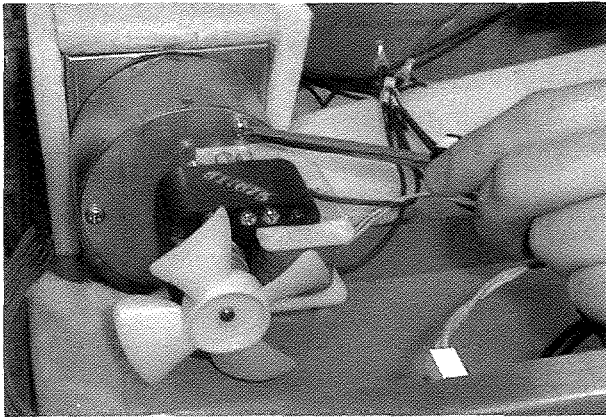

Figure 1
4. Remove the 3 screws and lockwashers securing the blower to the blower box. (See Figure 1)